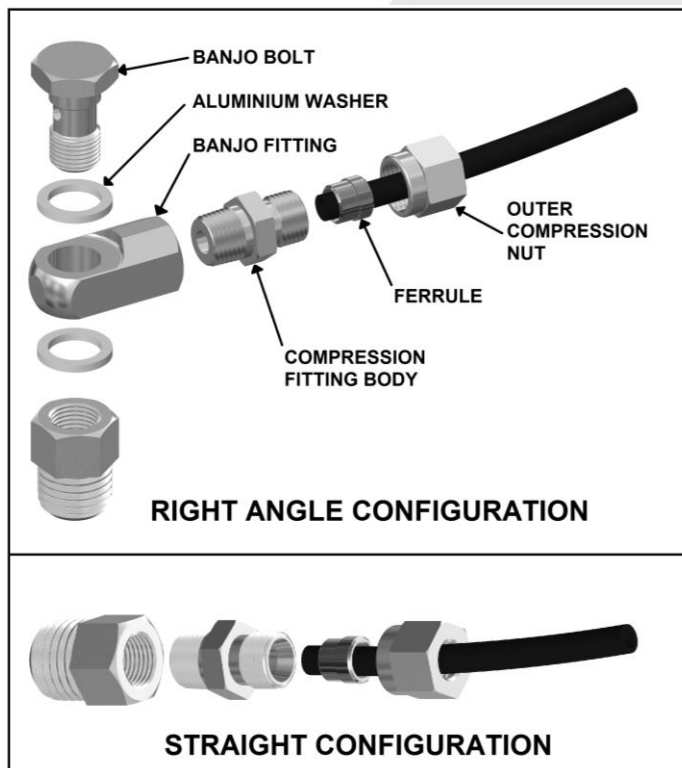

Figure 17.
- Assemble an aluminium washer onto the banjo bolt and insert through the banjo fitting. Assemble second aluminium washer and tighten into bulkhead fitting using a 14mm [9/16"] spanner. (Fig.17.)
- Insert the outer compression nut and ferrule over the air line. Ferrule should be oriented as per Fig.17.
NOTE : When right angle routing of the tube is not required, screw the compression fitting body straight into the bulkhead fitting body (Fig.17.).